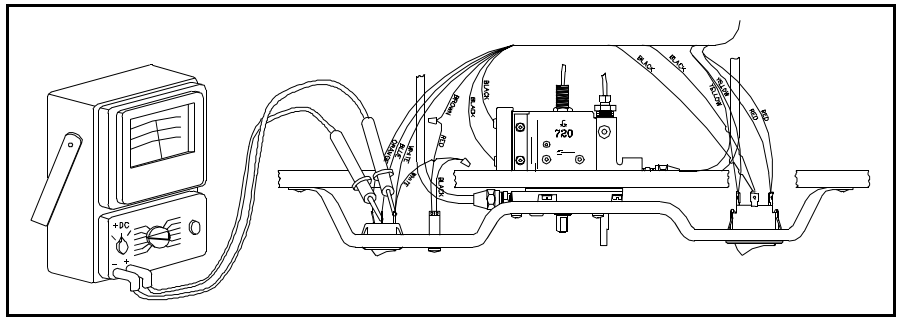

Figure 3.19 12 Volt Check at Blue and White Terminals
4. To check for loose wire connections, set your Volt-Ohm meter to + 25 Volt scale. Check for presence of 12 volts at the Ignitor rocker switch from the center wire of the switch to DC negative, as shown in Figure 3.19. If present, proceed to Step 5.